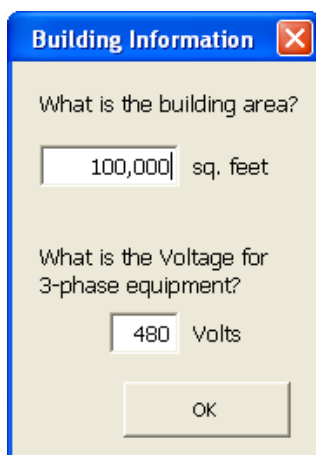

Figure 2-6: Entering building information in ECAM+'s “Definition of Points” menu item.
This menu item is required to utilize the PNNL building re-tuning capability. This process takes all of the raw data points from the BAS system and “maps” them so that ECAM+ can recognize what they are. This mapping feature enables normalizations, calculated points, and certain metrics and charts to be created automatically. The first window that comes up asks for some basic building information (i.e., building area and voltage for three-phase equipment). If you know this information, ECAM+ will normalize data and metrics by square foot, but if you do not know this, just leave the default values of 100,000 sf and 480 Volts and select “OK” (see Figure 2-6).
Step 2: Input the building area and voltage for three-phase equipment (if known, see Figure 2-6)